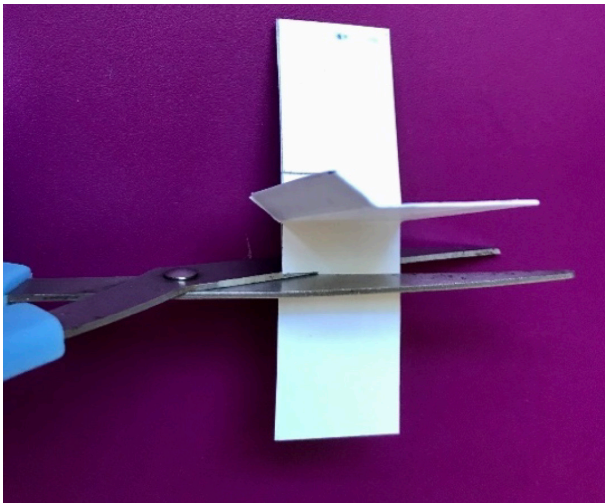

Figure 9: The rudder can bend from side to side.
- Make two 0.33 inch (0.8 cm) cuts into the horizontal stabilizer to form two elevators about 1.5 inches (3.8 cm) long from either end. See Figure 9.